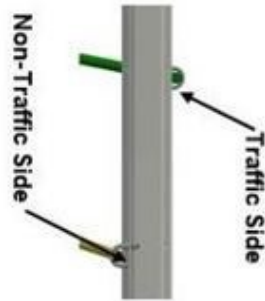

Figure 8
3. Place the bottom cable on the embankment side and the high bottom cable on the opposite side of the post. The cables are attached to the post with a cable hook bolt (PN-4225G). The bottom cable is attached to the post using the bottom hole and the high bottom cable is attached using the top hole. The cable hook bolt is placed around the cable with the opening of the bolt down (See Figure 8). Secure the bolt to the post with a hex nut (PN-3245G) and tighten until snug with a minimum of two threads beyond the nut.